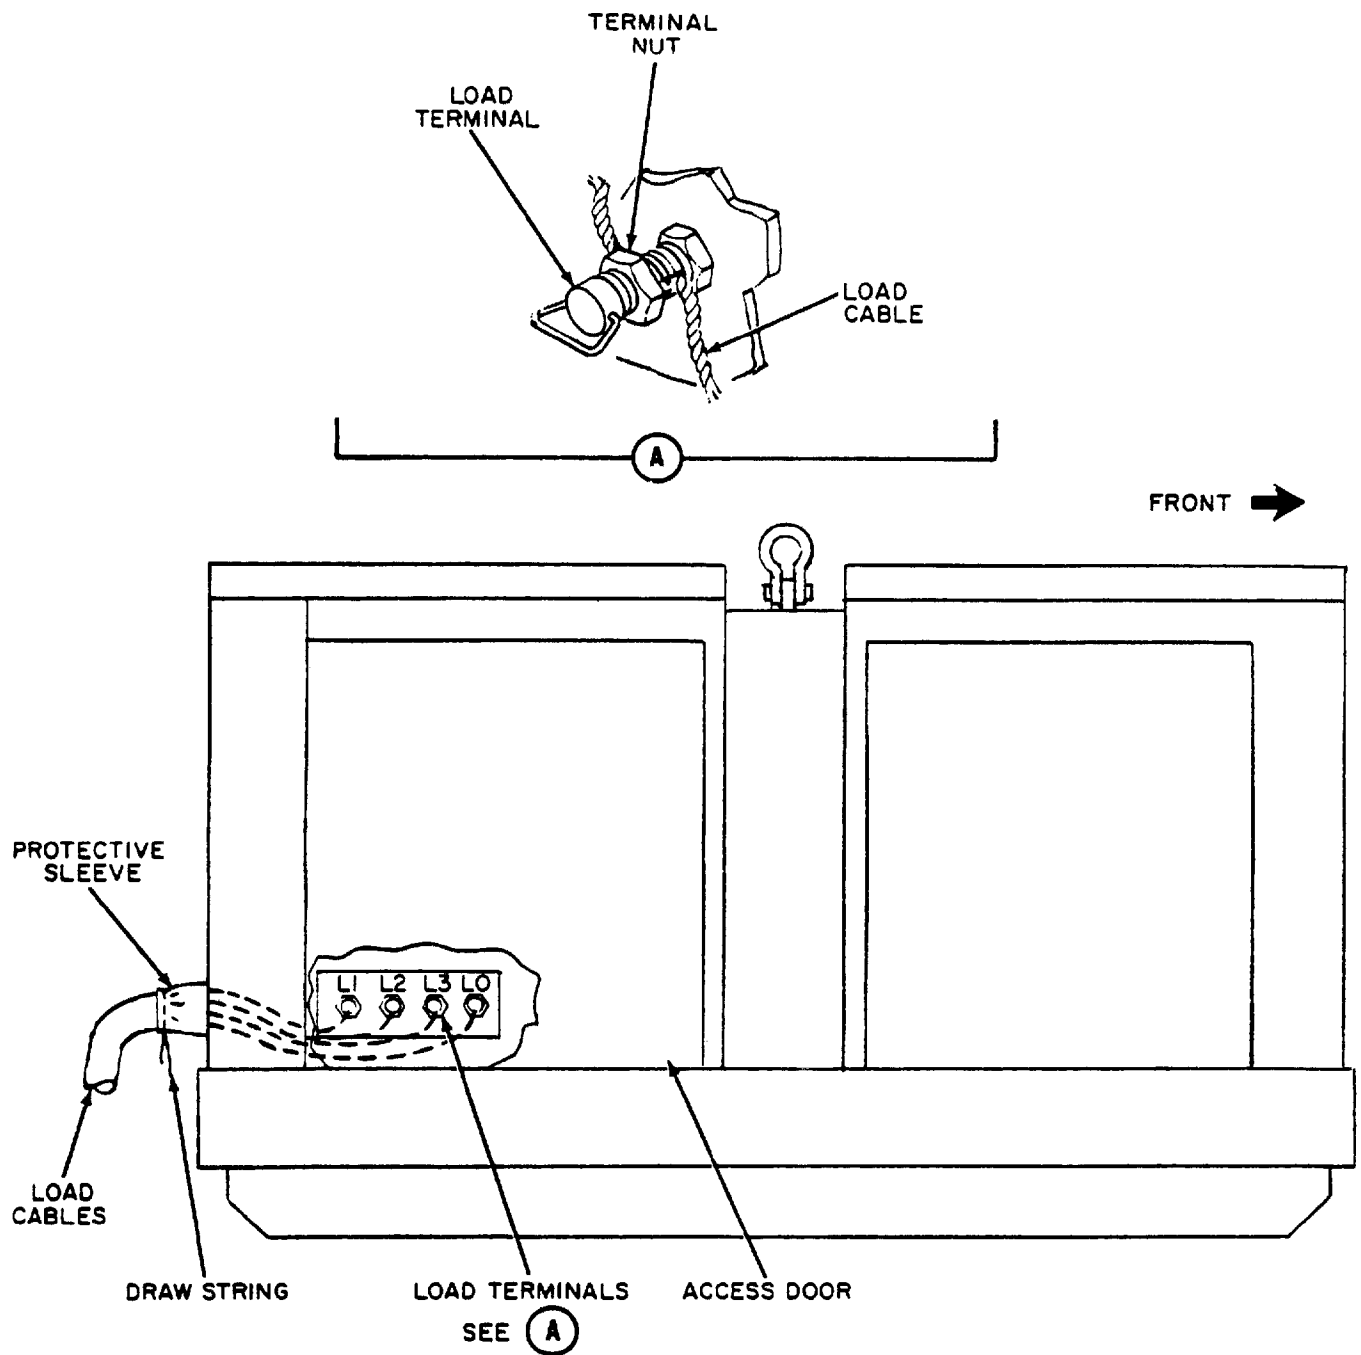

Figure 4-7. Load Cable Connections
(1) Position auxiliary fuel supply within 25 feet (7.6 meters) of generator set and not more than 12 feet (2.7 meters) below the transfer pumps.
(2) Remove cap from auxiliary fuel inlet fitting.
(3) Remove auxiliary fuel hose from its mount at left rear side of generator. Connect hose to auxiliary fuel inlet fitting and auxiliary fuel supply.
(4) Position fuel transfer valve to AUXILIARY.
(5) Remove cap from fuel supply outlet fitting.
(6) Connect fuel hose to fuel supply outlet fitting and then to external equipment requiring fuel.
(7) Position fuel transfer valve to OFF.
g. Load Connections. To connect load cables to generator set, refer to figure 4-7 and proceed as follows:
a. Open access door (refer to figure 4-7). Disconnect transparent cover by loosening six quick-release fasteners. Remove wrench from cover. Loosen terminal nuts using wrench provided, and remove load cables from terminals. Untie drawstring and remove load cables from generator set. Install wrench on transparent cover and install cover. Close access door.